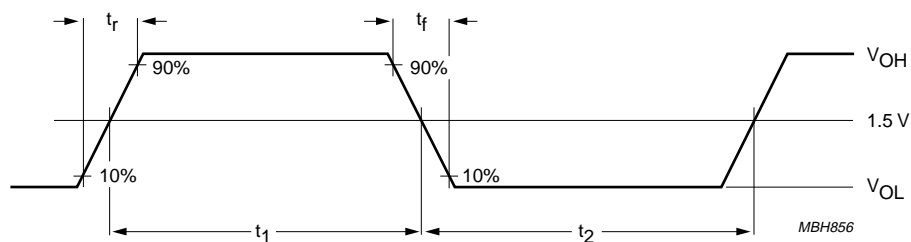

Fig.12 Definition of transition times.
2. The transition time and duty cycle definitions are shown in Fig.12;  $\delta = \frac{t_1}{t_1 + t_2}$ .